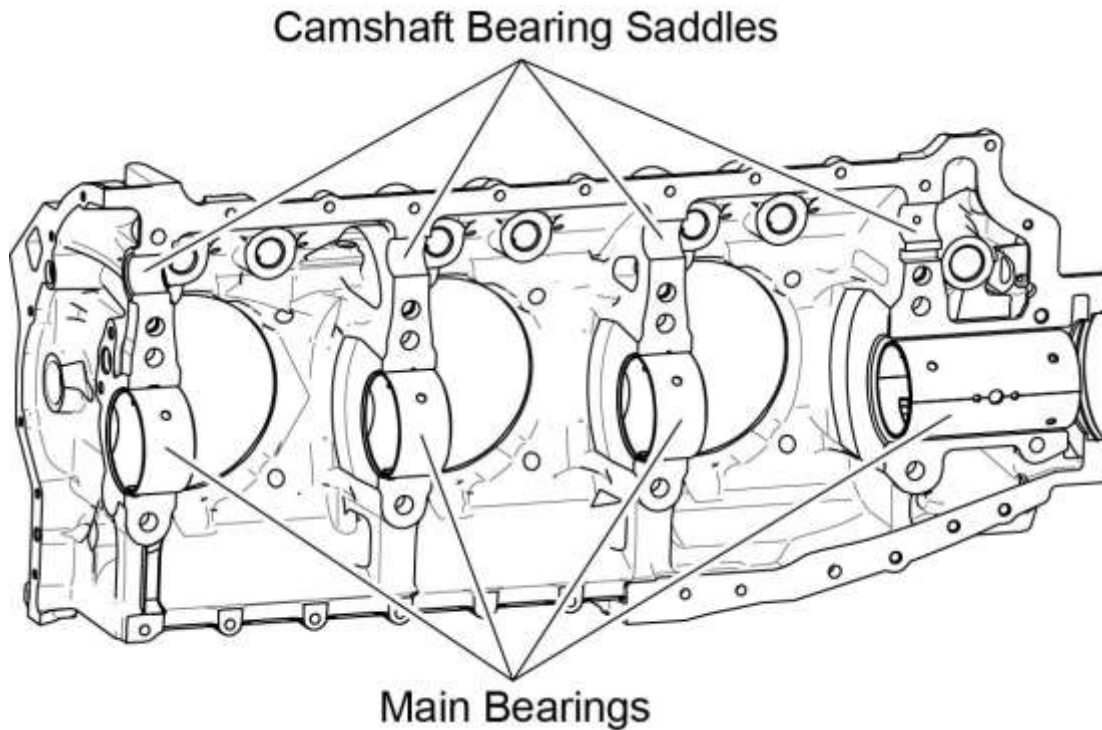

Figure 83
- (1) Put the camshaft in the left crankcase half (Figure 83).